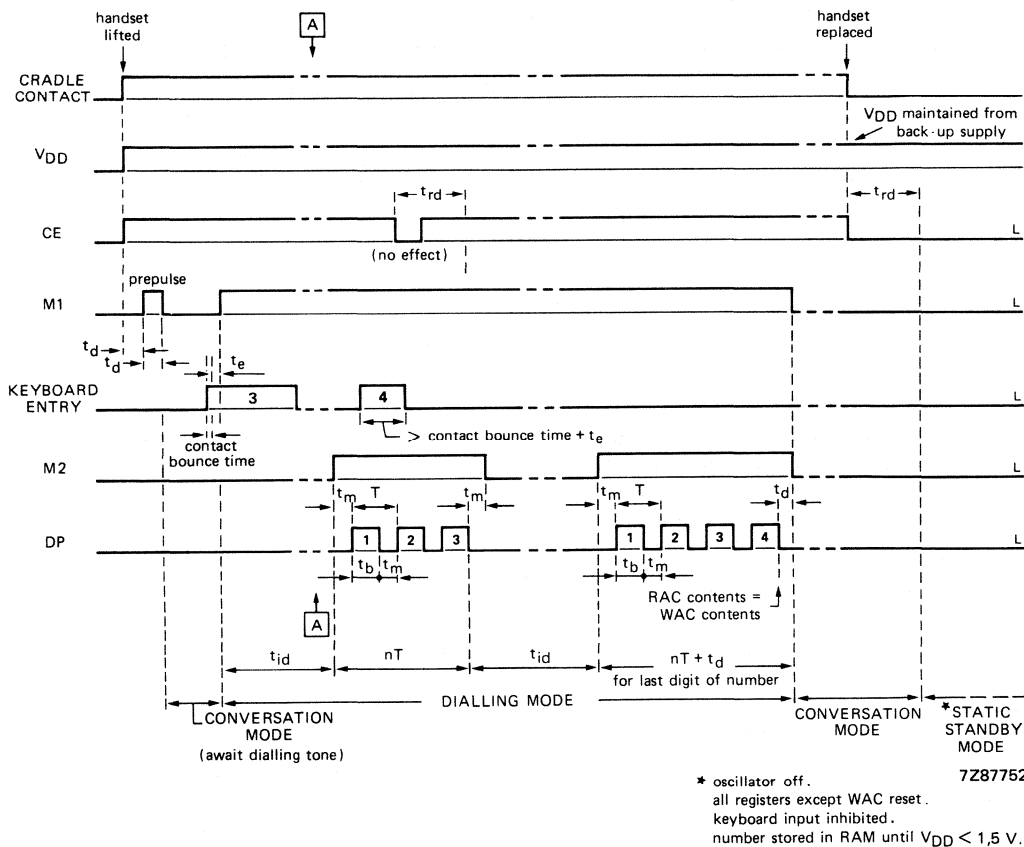

Fig. 7 Timing diagram of dialling sequence with V_{DD} and CE HIGH before keyboard entry (e.g. supply via the cradle contacts). M2 is an internal signal.
- The supply to the integrated circuit is derived from the telephone lines via the cradle contacts (power supply before keyboard entry); see Fig. 7.
The further dialling sequence will be described with the aid of Fig. 7. When the keyboard entry has been decoded and written into the RAM, M1 goes HIGH to mute the telephone and an inter-digit pause (t_{id}) ensues. M2 then goes HIGH (M2 is an internally generated signal, used for explanation only), the RAC addresses the RAM and the first keycode is loaded into the register of the output counter which generates the appropriate number of correctly-timed dialling pulses at output DP. When the digit has been pulsed out, M2 goes LOW, the RAC is incremented by one and the procedure repeats until the WAC and RAC contents are equal (all digits pulsed out). Output M1 then goes LOW, the circuit assumes the conversation mode. The circuit reverts to the static standby mode if CE goes LOW for more than the reset delay time ($t_{rd} = 1,6$ dialling pulse periods) at any time during the conversation or dialling mode (e.g. because the handset is replaced). CE remains LOW although V_{DD} is maintained by a back-up supply (e.g. because an external diode isolates CE from the back-up supply connected to V_{DD}). The RAM retains its contents for subsequent automatic redialling as long as the back-up supply maintains V_{DD} above $V_{DD0} = 1,5$ V.
Fig. 8 Timing diagram for initiating the dialling mode with V_{DD} and CE initially supplied via the cradle contacts in series with a common contact on the keyboard. See Fig. 7 for pulse timings after point A. M2 is an internal signal.